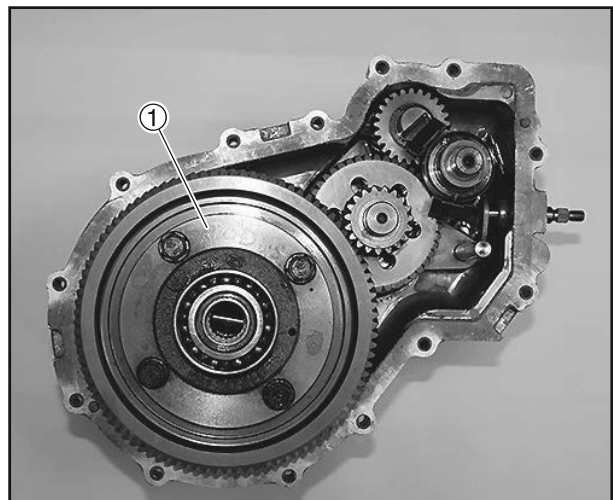

Figure 6-94
11. Install the differential assembly (Figure 6-94, (1)).